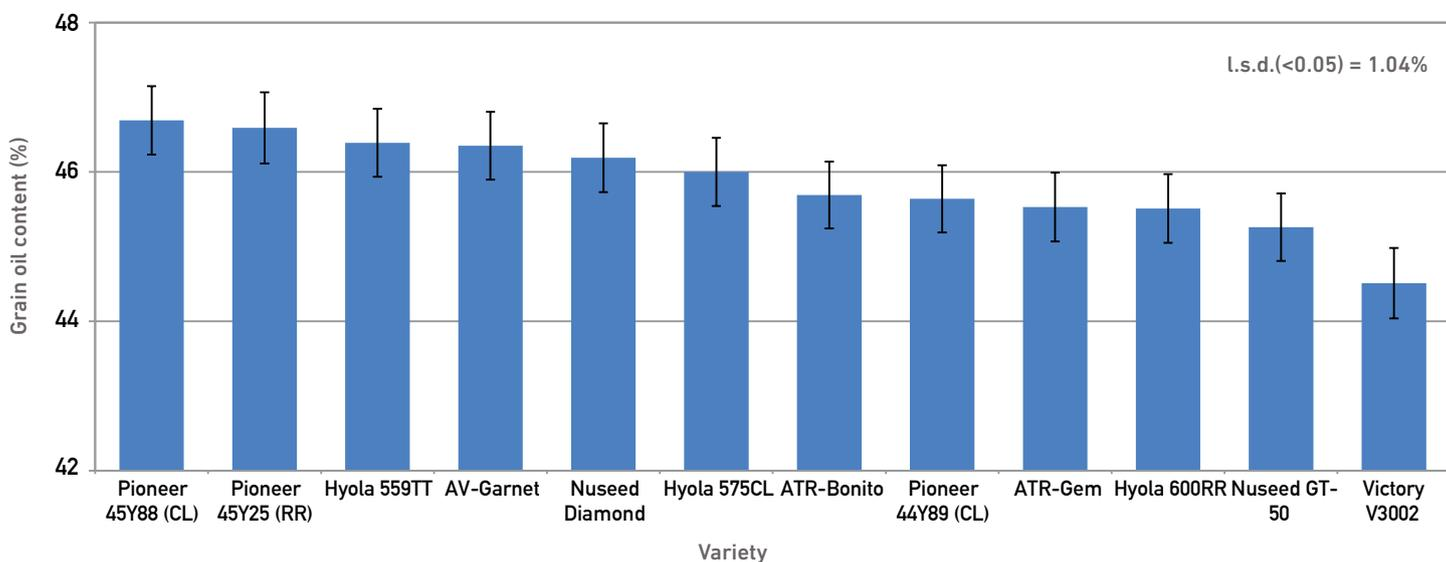

Figure 2. Grain oil content of each variety averaged across all nitrogen treatments in the irrigated canola experiment at Leeton in 2016.
Grain oil content averaged 45.86% across all variety and nitrogen treatments. Pioneer 45Y88 (CL) had the highest oil content (46.69%) but was statistically similar to Pioneer 45Y25 (RR), Hyola 559TT, AV-Garnet, Nuseed Diamond, Hyola 575CL and ATR-Bonito. Victory V3002 had the lowest oil content (44.51%) but was statistically similar to Nuseed GT-50 (Figure 2).